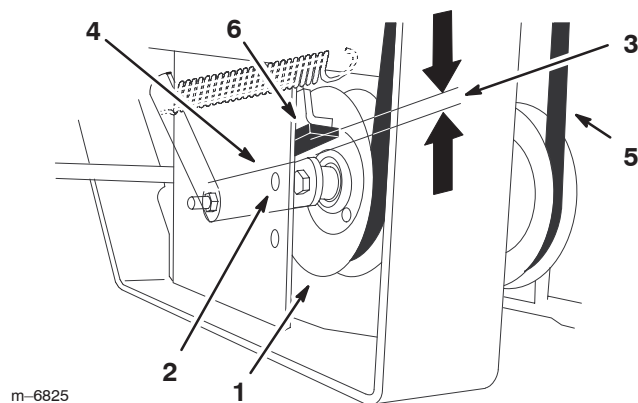

Figure 76
9. Check the distance from the rubber stop and the arm of the spring loaded idler pulley when the idler plate is tightened. It needs to be 0 to 1/4 inch (0 to 6 mm) from the rubber stop (Fig. 76).